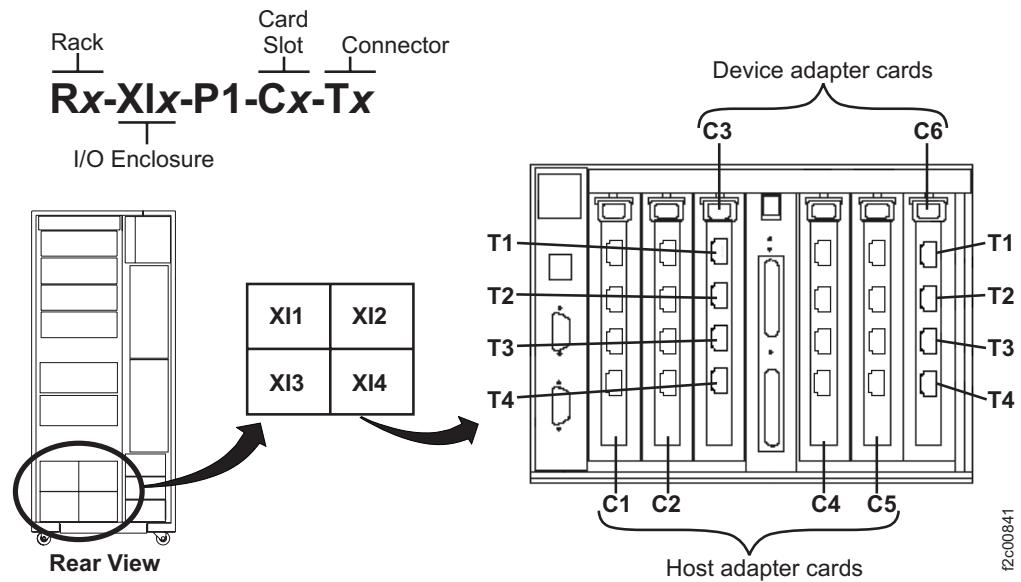

Figure 49. Location codes for device adapter and host adapter cards
5. Identify the I/O enclosure that contains the host card and port to which the host cables from the host will be attached. See Figure 49 on page 57.
Note: The syntax of the location code shown on the ICAT configuration tool might differ slightly from that shown in Figure 49 on page 57. For the device adapter card connectors, the syntax might be Rx-Ix-Cx-Tx (the backplane identifier of P1 is missing and Ix is equivalent to XIx).